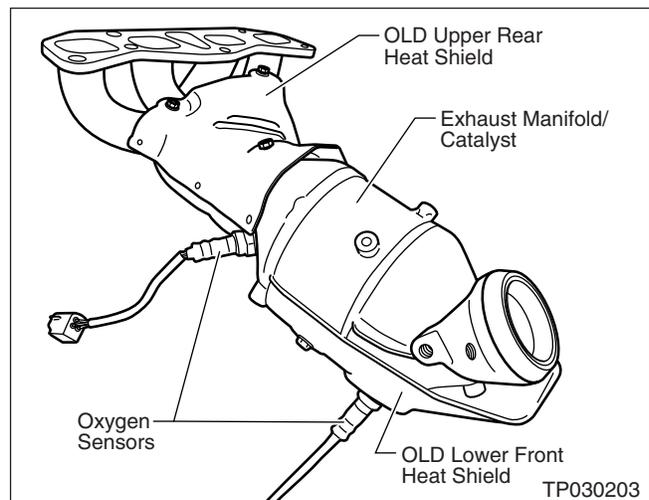

Figure E22
29. Remove three screws and remove the old Upper Rear Heat Shield from the manifold (see Figure E22).